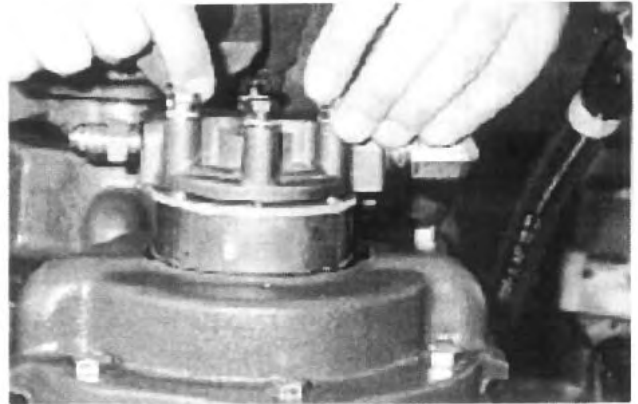

Fig. 3
5. If so equipped, remove the oil pump cap, shims, spacer ring, oil pump cartridge assembly and pressure relief spring. On all other models, remove the blanking cover. See Fig. 3.